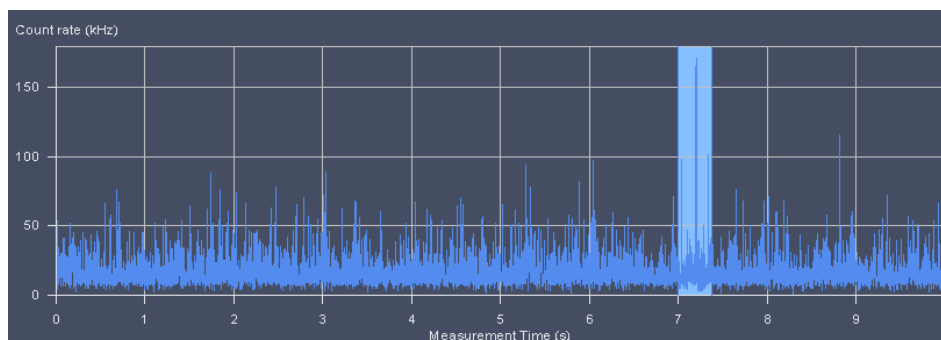

Fig. 91 Count rate trace with cut out regions
- If you have a raw data file available, you can define cut regions by choosing the **New cut region** option. The cut region size can be adapted by two sliders. The cut out region is thereby displayed as a matted box (Fig. 91). You can select independent cut regions for different channels of a cross correlation experiments. In